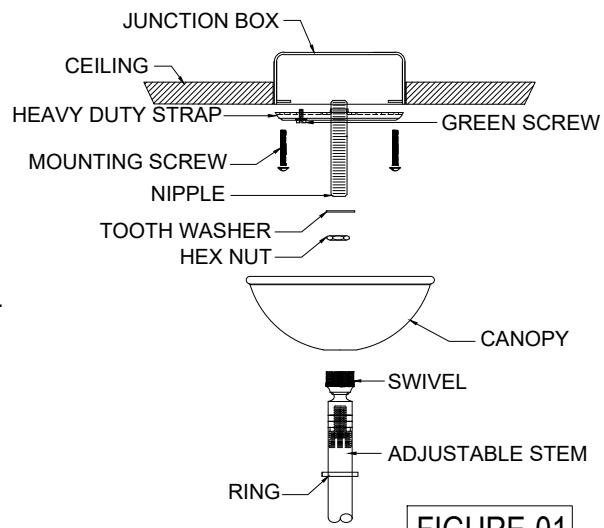

FIGURE-01
1. Attach the heavy duty strap to the junction box using mounting screw. (The green screw should face the floor). (See FIGURE-01.)